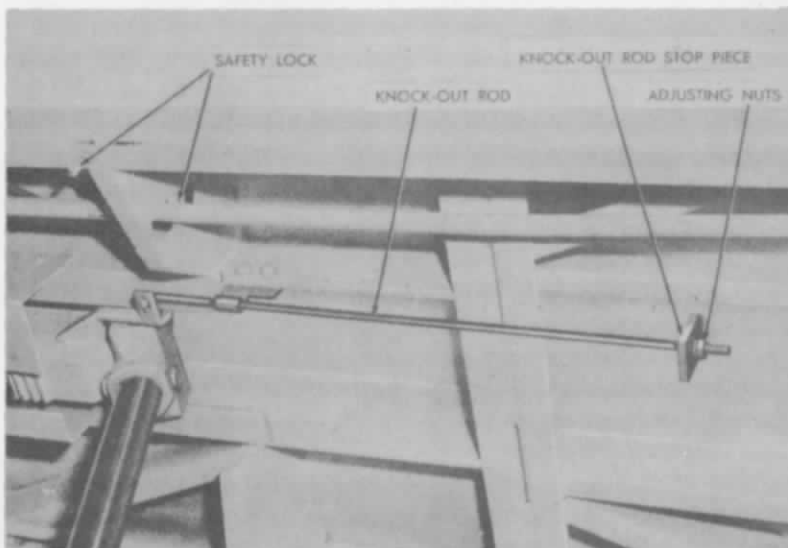

Figure 18 - Knock-Out Rod Stop Adjustment
a. The bucket is stopped at loading position by the knock-out rod attached to the rack gear as explained under paragraph 3.b. (2), page 11. To make bucket stop at a slightly higher position, loosen nuts on front end of knock-out rod shown in figure 18 and move stop piece toward rear. Then tighten nuts. To make bucket stop in a lower position, move stop piece toward front of unit.
b. (See figure 18.) If stop is adjusted too far, or for some reason fails to operate, the bucket will travel beyond the regular stopping point. It is then stopped by a safety hydraulic stop to prevent it from descending too low and causing damage. This safety stop is located at the rear end of the rack gear track channels. When the regular stop fails to operate, the rack gear continues to travel back until it contacts the safety stop. This causes a pressure to build up in the operating cylinder and valve, which operates the hydraulic